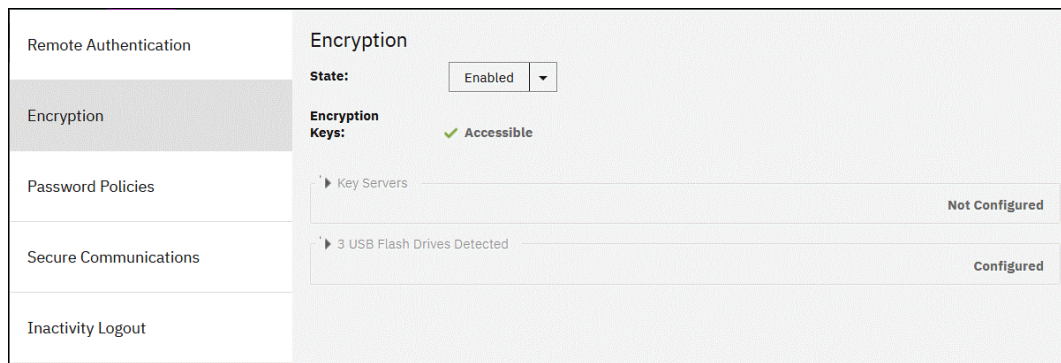

Figure 12-27 Encryption view showing using USB flash drives as the enabled provider
4. Confirm that encryption is enabled and verify which key providers are in use by selecting **Settings** → **Security** → **Encryption**, as shown in Figure 12-27.